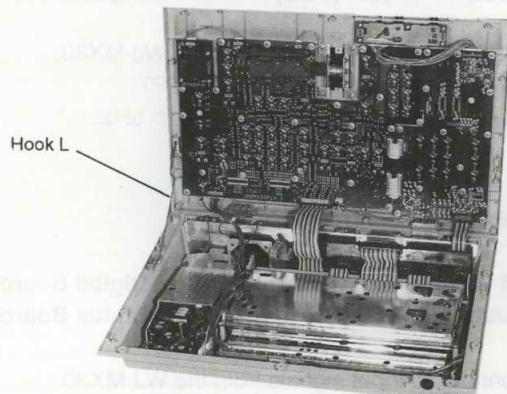

Fig. 2-2
- Referring to the Fig. 2-2, open the Upper Cover and secure it using the Hook L.